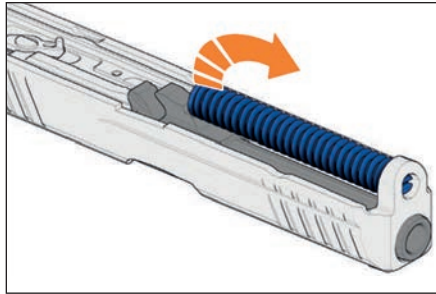

Figure 20 – Removing the recoil spring
4. Turn the slide upside down and carefully push the recoil spring forward and out to either the left or right hand side, separating the recoil spring from the barrel and slide (see Figure 20).